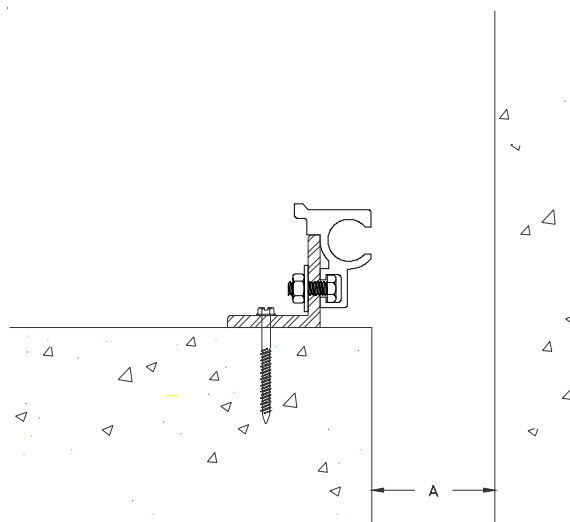

Figure 5
STEP 9. Select base member assembly and the base member assembly anchors. Place the base member assemblies back into position in the blockout. Shim the base member assemblies as necessary to properly align them with the finished floor. Ensure that the base member assemblies are level, plumb, properly aligned, and flush with the finished floor. Using the base member assembly fasteners, attach the base member assembly to the concrete, see Figure 5. Repeat this procedure for each subsequent section of the base member assembly.